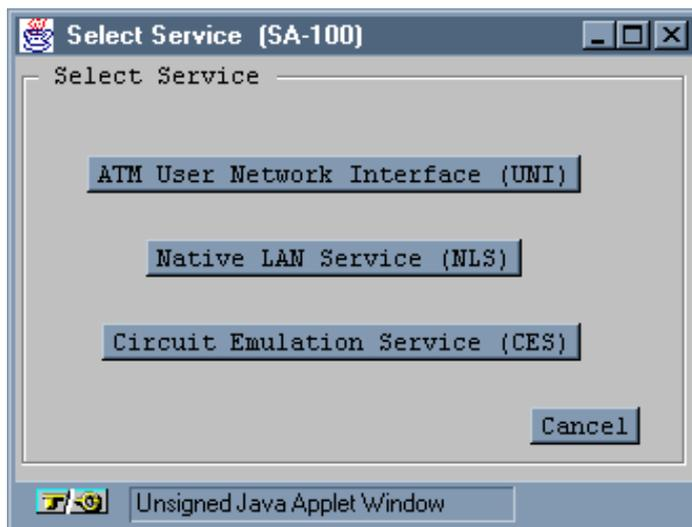

Figure 5-1. Select Service Window
You can select a network service by choosing the Service Management button from the Main menu. When the Select Service window appears (see Figure 5-1), select the service type.
1. Choose the Service Management button. The Select Service window appears (Figure 5-1 on page 5-2).